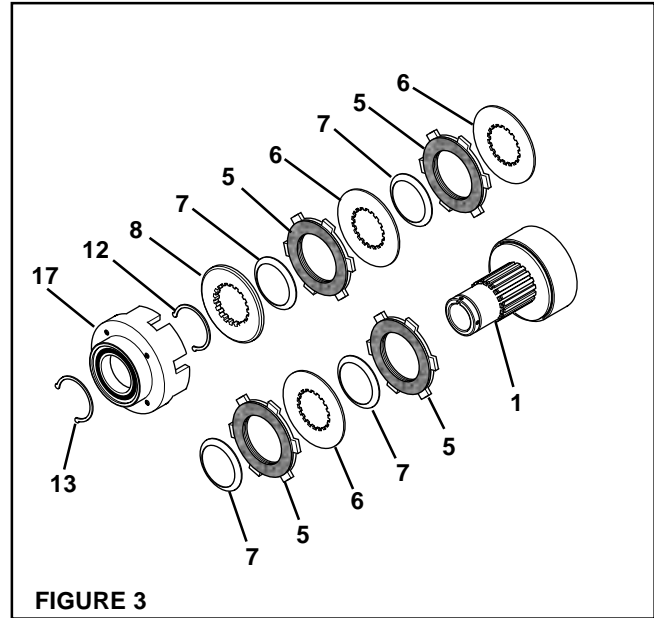

FIGURE 3
1. Remove the Retaining Ring (Item 13) (See Figure 3).
2. Press the Driving Shell (Item 17) off the Multiple Disc Clutch (See Figure 3).
3. Remove the Retaining Ring (Item 12) from the Hub (Item 1) (See Figure 3).
4. Slide the End Flange (Item 8), Waved Springs (Item 7), Facing Assemblies (Item 5), and Inner Plates (Item 6) off the Hub (Item 1) (See Figure 3).
20. Slide the new Waved Springs (Item 7), Facing Assemblies (Item 5), and Inner Plates (Item 6) onto the Hub (Item 1) (See Figure 3).
21. Slide the End Flange (Item 8) onto the Hub (Item 1) (See Figure 3).
22. Reinstall the Retaining Ring (Item 12) (See Figure 3).
29. Press the Driving Shell (Item 17) onto the Multiple Disc Clutch (See Figure 3).
30. Reinstall the Retaining Ring (Item 13) (See Figure 3).